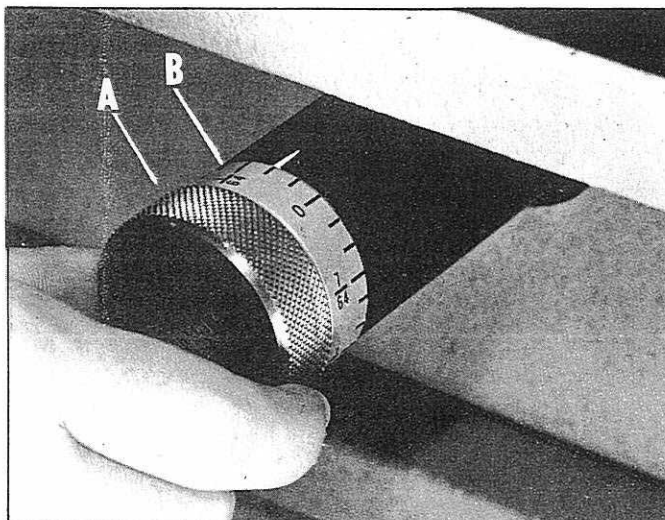

Fig. 8.
The "Micro-Set" Depth of cut control (A) Fig. 8 is conveniently located and readily accessible at the front of the machine. Large, easy to read graduations are in full view of the operator. The graduated collar (B) Fig. 8 is calibrated in 64ths of an inch. The markings are widely spaced to permit easy readings and insure accurate adjustment. The maximum depth of cut is 1/8".